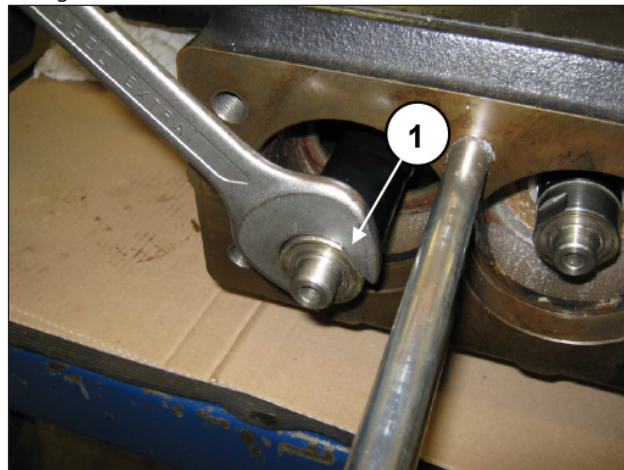

Fig. 124
After removing the head, release the spacers as shown in pos. ①, Fig. 124.